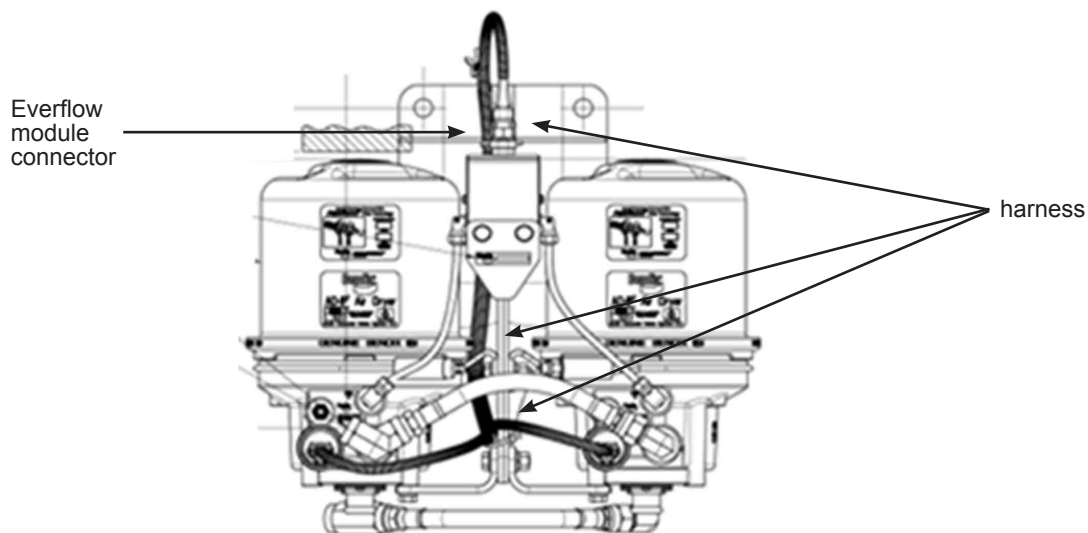

Figure 3 - Air Dryer Harness
- 1.4. Unplug the vehicle wiring harness from the heater and thermostat assembly connector on the end cover assembly. See Figure 3.